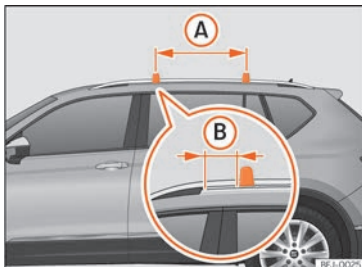

Fig. 169 Attachment points for the roof railings for the roof carrier system.
The crossbars are assembled on the roof railings. The distance between crossbars **>>> Fig. 169 (A)** should be between 70 and 90 cm and the distance between the crossbars and the brackets of the roof railings **(B)** must be 15 cm.